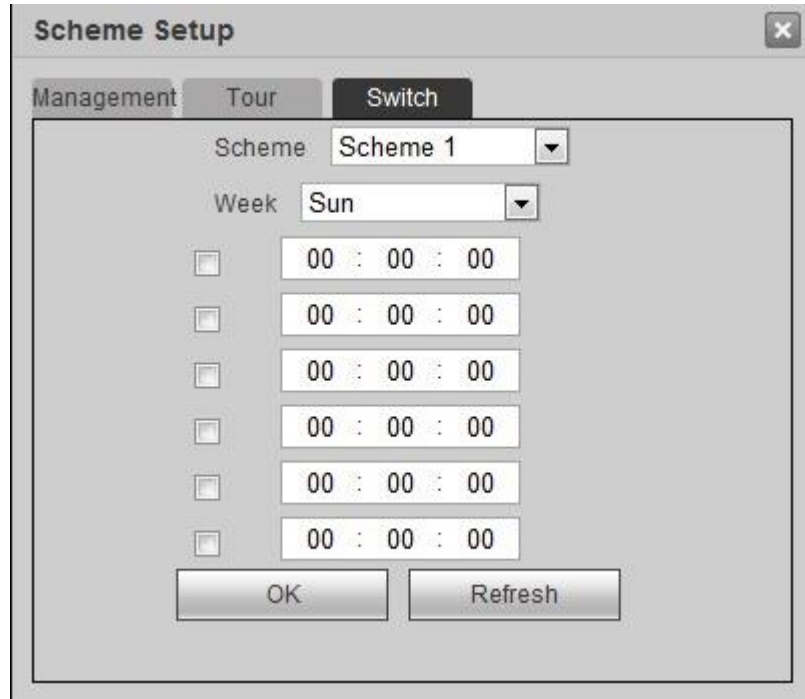

Figure 4-16
Step 1 Select “Switch” tab. The system displays “Switch” interface, as shown in Figure 4-16.